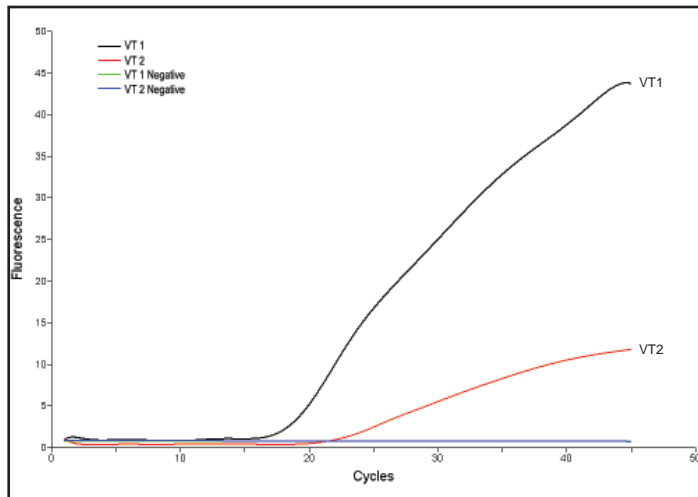

Figure 1. Real-time PCR result for verotoxin-producing *E. coli* (VTEC)
8. Example of real-time graph is depicted in Figure 1